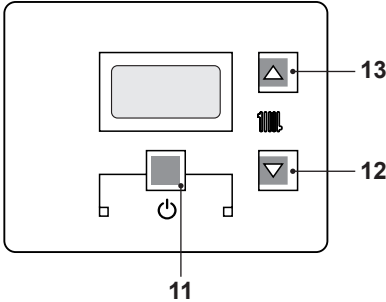
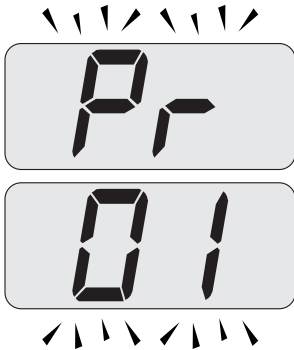
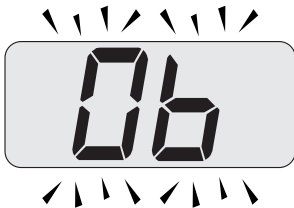

Fig. 7.50
Fig. 7.51
Fig. 7.52
- Enter the "programming mode" by pressing keys 11 - 12 - 13 (Fig. 7.50) for 10 seconds at the same time until the letters **Pr** that alternate with code **01** are displayed on the LCD display, indicating that "parameter 01" (Fig. 7.51) has been activated.
- Press keys 11 and 13 (Fig. 7.50) at the same time until the value of parameter 06 (40=Advance Plus 16S ERP or 41=Advance Plus 25S ERP or 42=Advance Plus 30S ERP) is displayed on the LCD display (Fig. 7.52).
- Press keys 11 and 12 (Fig. 7.50) at the same time to exit without changing the value (return to the parameters list Fig. 7.51).
- Press keys 11 - 12 - 13 (Fig. 7.50) at the same time for 10 seconds to exit the "programming mode".